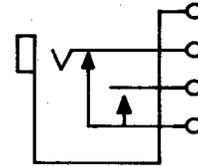

Fig. 2—303A or C Jack
**2.02 303A and C:** These single-mounted jacks (Fig. 2) are used with 1D, 1E, 153, 209, 241, 305, 327, 328, 347, 373, and 464 plugs. These jacks are heavily insulated and should be mounted with springs in a vertical plane. The 303C jack is designed to mount in the 252A jack mounting.